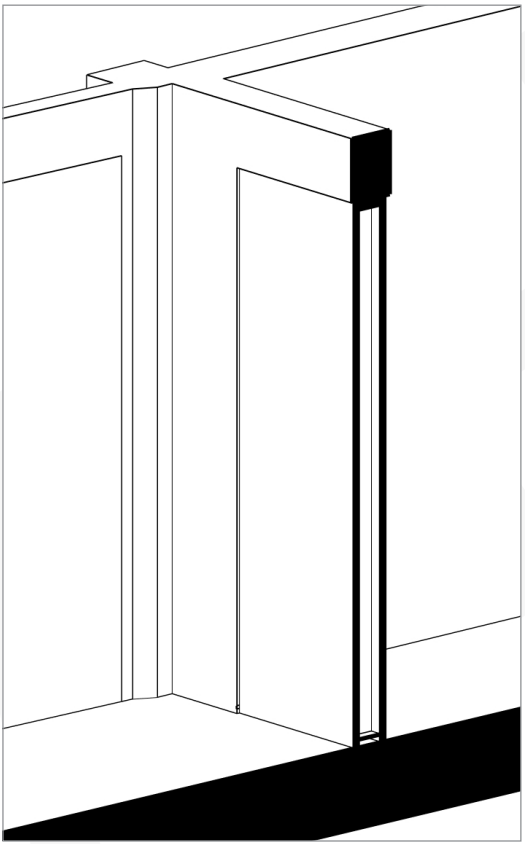
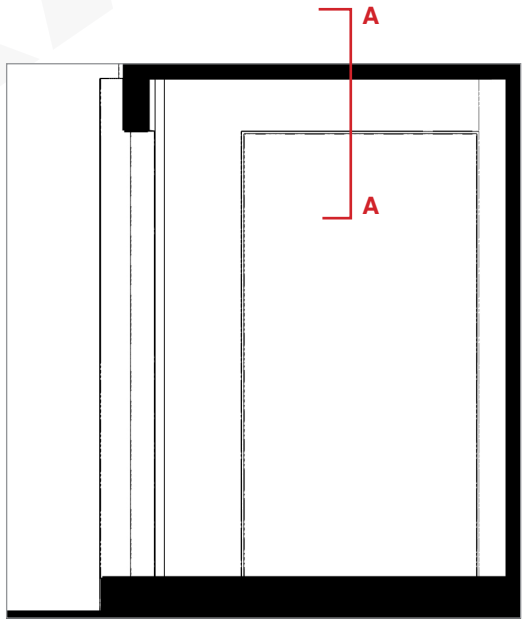

Fig.1
Fig.3
The current architrave does not appear to be the original. The proposal is to retain a simplified opening, as illustrated in Figures 1 and 3. We therefore propose removing the moulded wooden architrave and using the existing recess of the opening with the frame and jamb. We would then add plasterboarding on an independent stud frame, which could be referred to as a contemporary concealed door, as shown in the elevation in Figure 3. Figures 1 and 4 represent the section of the head of the door, with the additional in-fill stud frame fixed into the jamb frame of the door.
- The stud will be plasterboarded with a double layer and an inch gap to represent the opening as per figure 1 & 2.